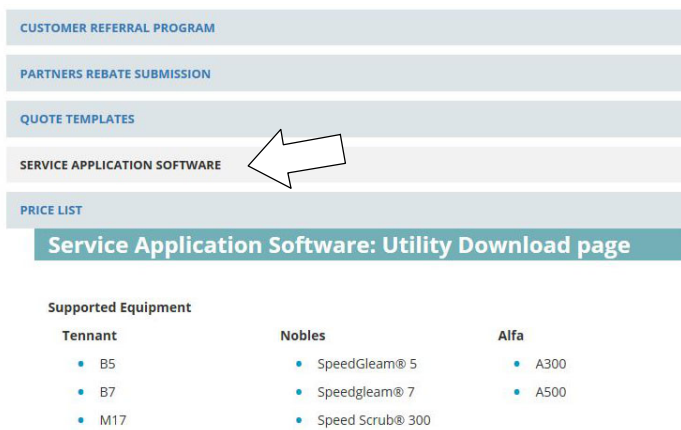

Fig. 28
3. Click on the “SERVICE APPLICATION SOFTWARE” link as shown below (Figure 28).